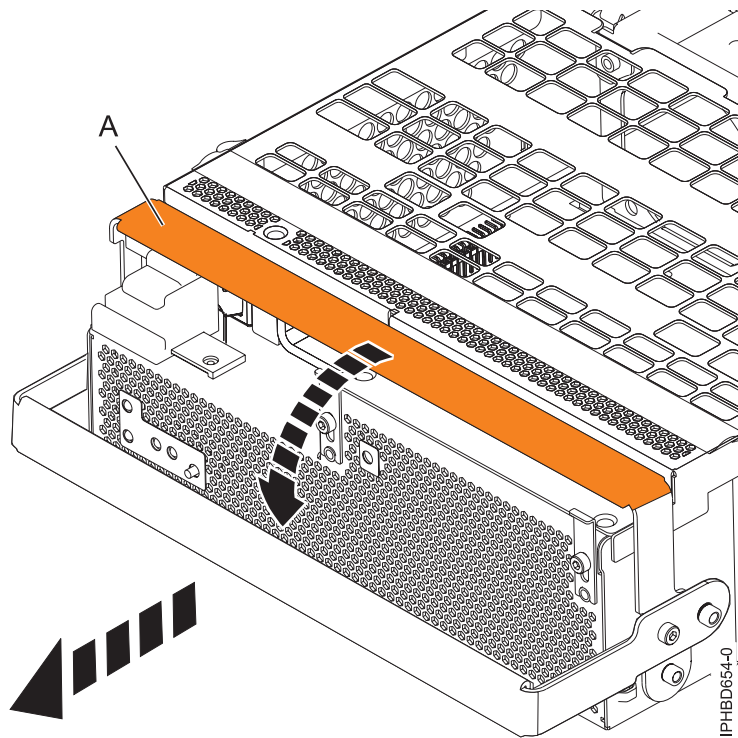

Figure 12. Removing a power supply
7. Rotate the power-supply locking handle (A) to the open position as shown in Figure 12. Pull the power supply out of the expansion unit.